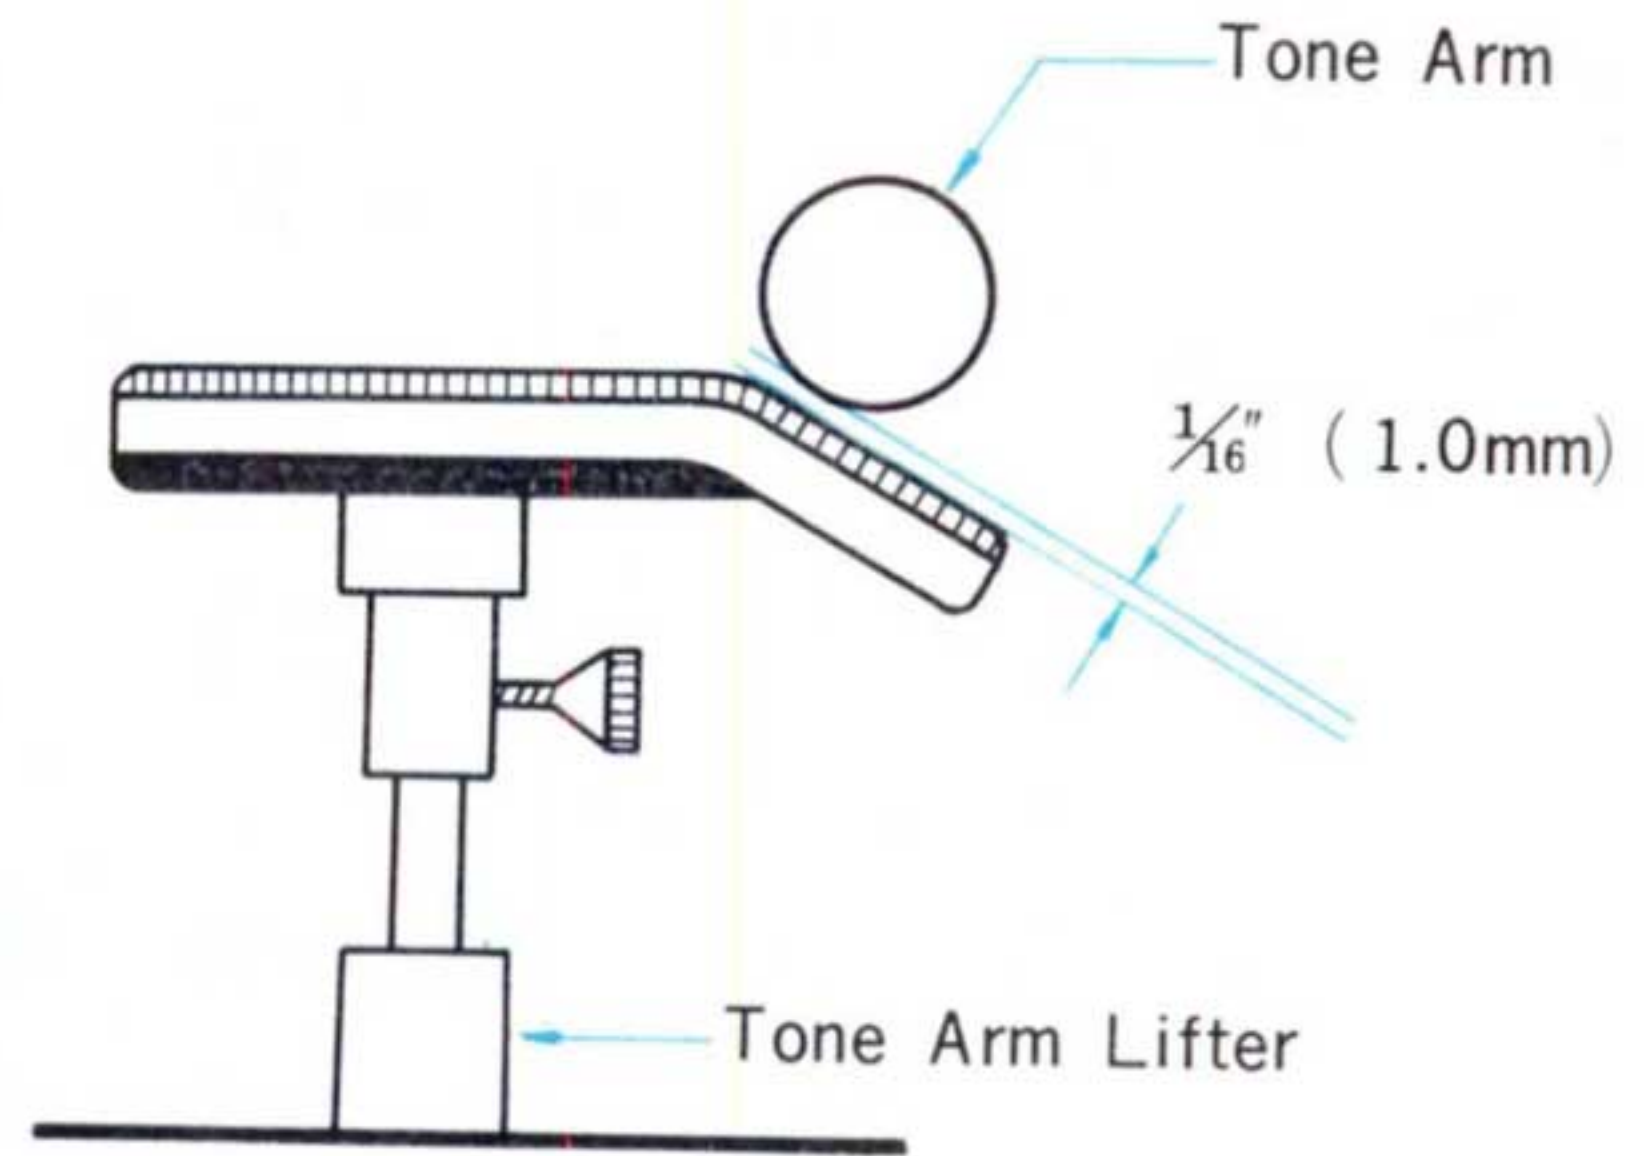

Fig. 3-6 Arm Rest Height Adj.
3. Adjust the height of the arm rest so that the clearance between the tone arm and arm lifter is less than $1/16''$ (1.0 mm) as shown in Fig. 3-6.